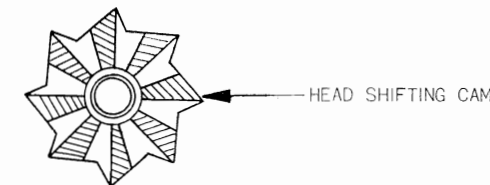

Fig. 16
- (1) When installing the HEAD SHIFTING PLATE ASSEMBLY to the chassis, adjust the tapping screw A so that the tip of the adjusting screw comes to the center of the shaded area in Fig. 16.